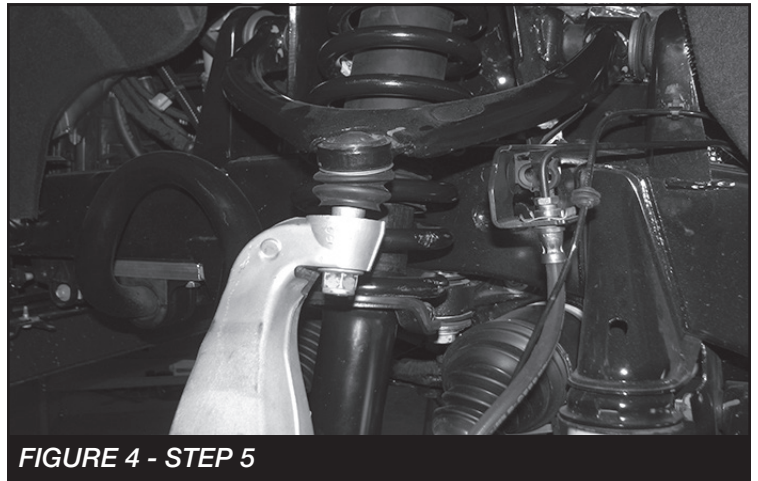

FIGURE 4 - STEP 5
5. Loosen the upper ball joint nut. Using a hammer carefully strike the knuckle to dislodge the ball joint. Remove the nut. **SEE FIGURE 4**